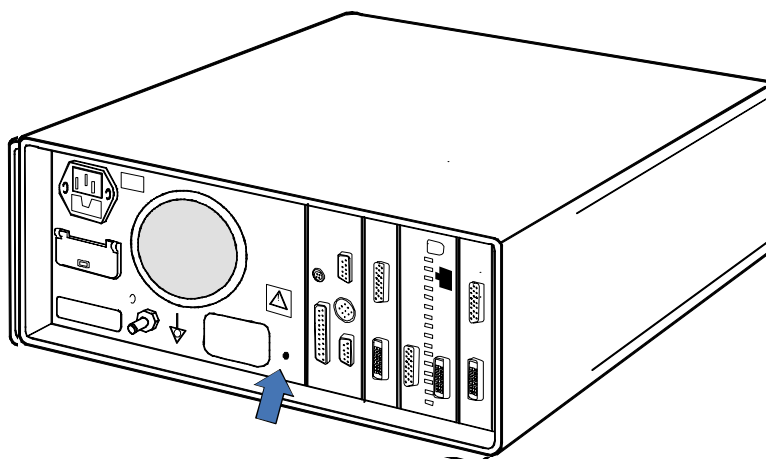

Figure 11 Service reset button
1. Make sure that the power of the monitor is turned off and unplug the power cord. Press and hold the service reset button on the rear panel for at least five seconds or until an audible tone is heard (see Figure 11).